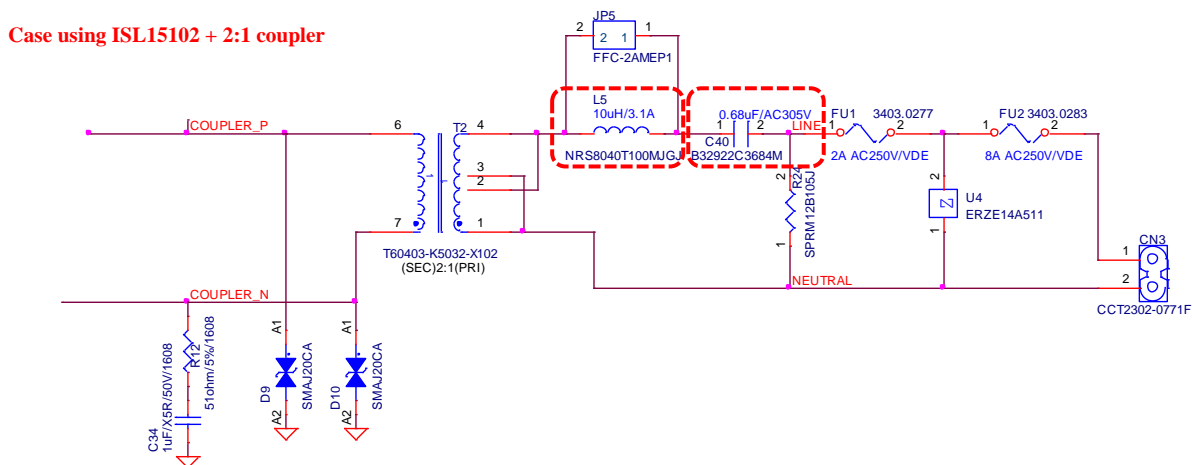
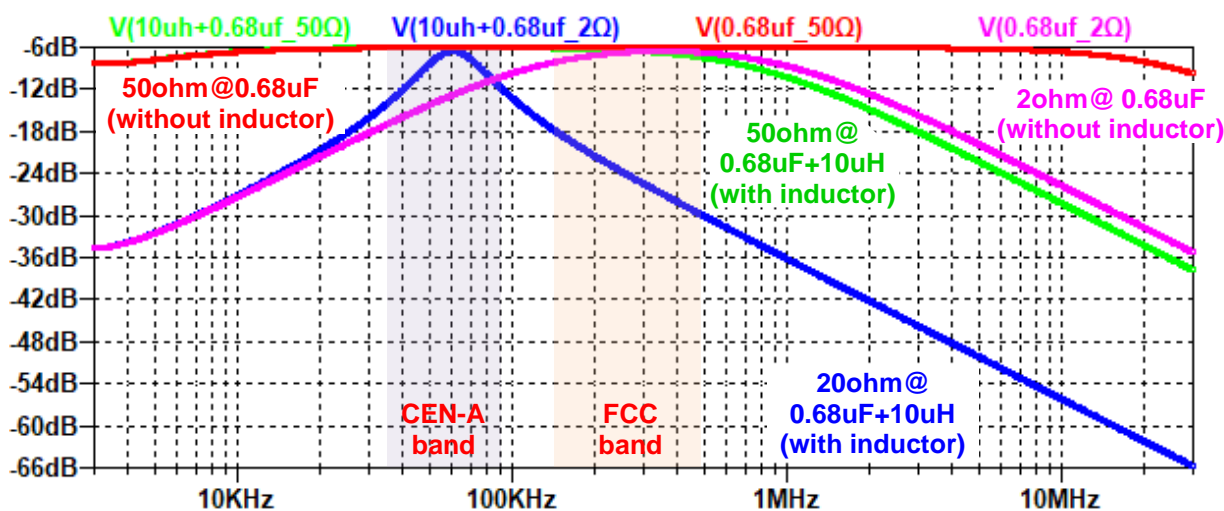

Figure 3-15 Example of connection for low impedance load measures in CENELEC-A band
Figure 3-16 Example of frequency characteristics for low impedance load measures in CENELEC-A band
- Figure 3-15 shows an example of connection for low impedance load measures the CENELEC-A band, and Figure 3-16 shows the example of frequency characteristics.